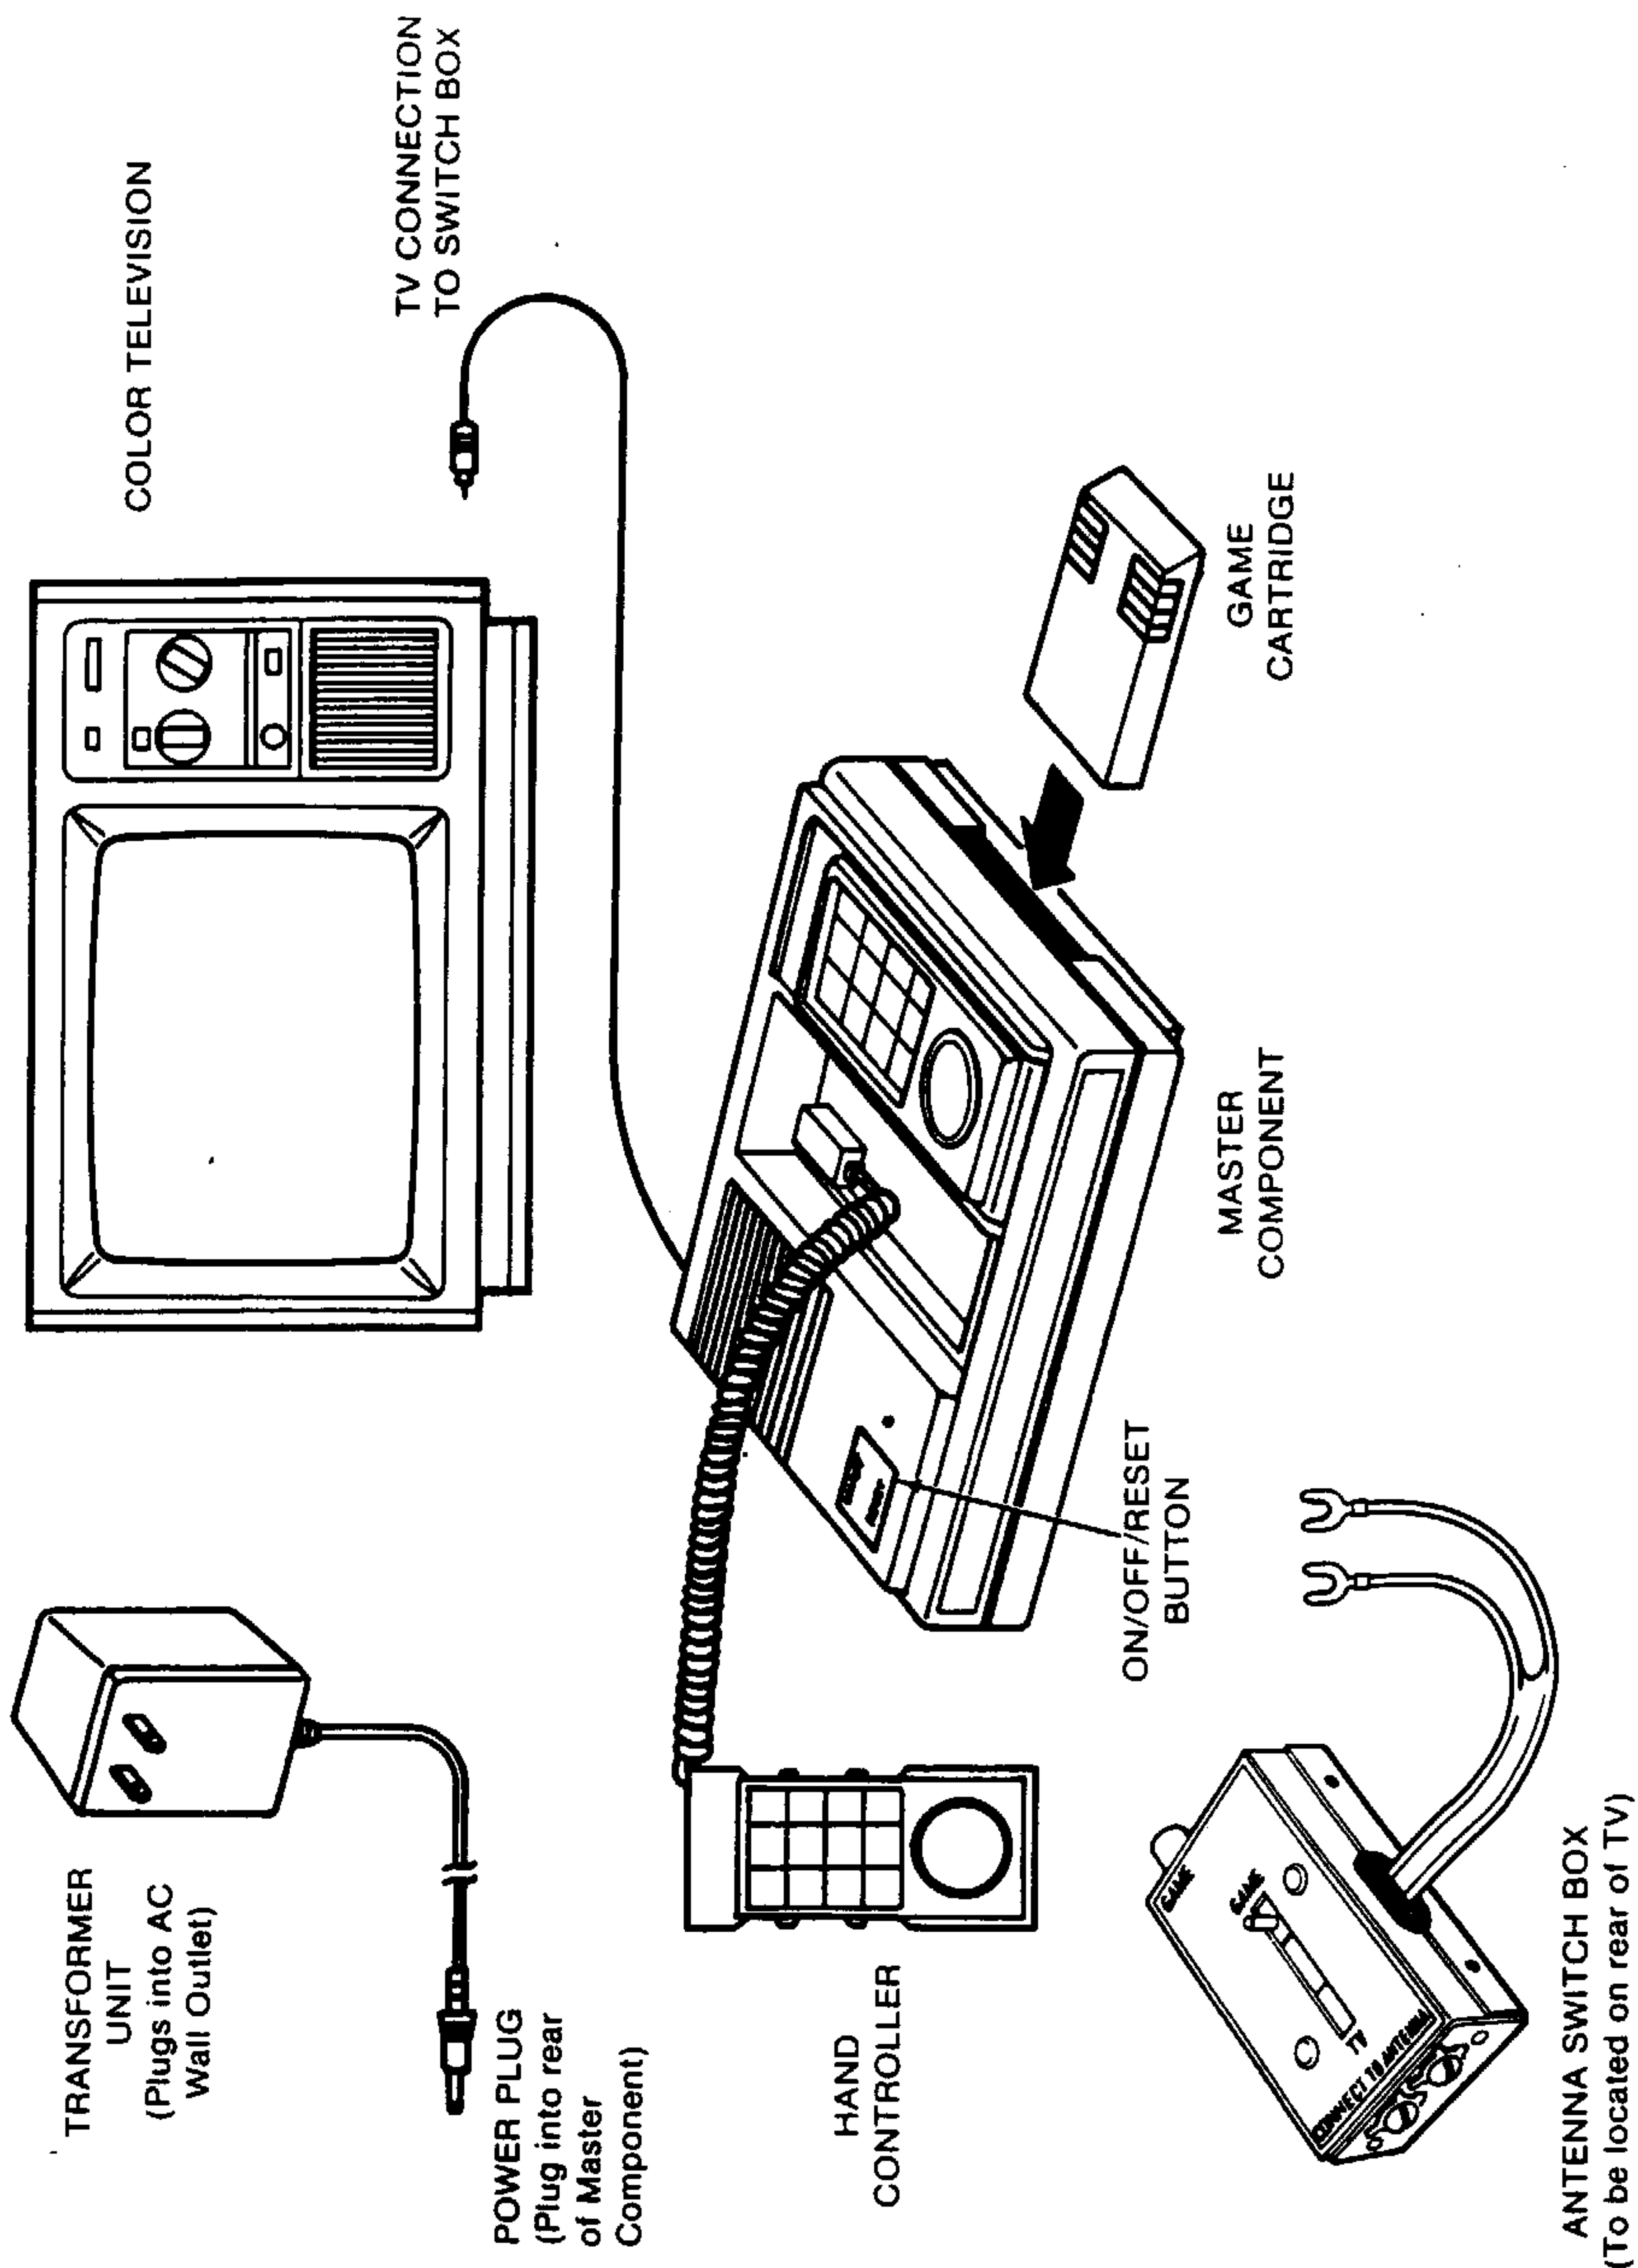

Figure 3 — MATTEL INTELLIVISION MASTER COMPONENT (Wiring Diagram)
2. Insert the game cartridge in the slot located on the right side of the Master Component (Figure 3).